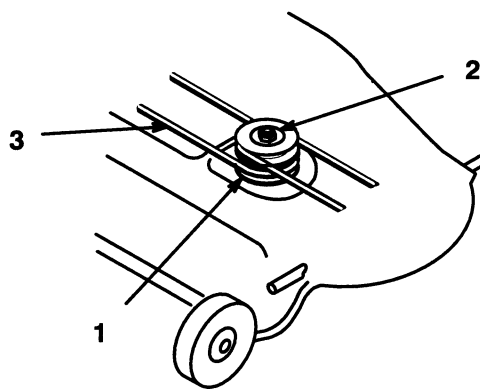

Figure 37
5. Pull on mower idler assembly to release belt tension and remove blade drive belt from right side pulley (Fig. 37).
6. Remove nut and lock washer from right hand blade spindle (Fig. 37). Remove double pulley.
7. Slide the single pulley onto the spindle shaft. Secure with previously removed lock washer and nut (Fig. 37).